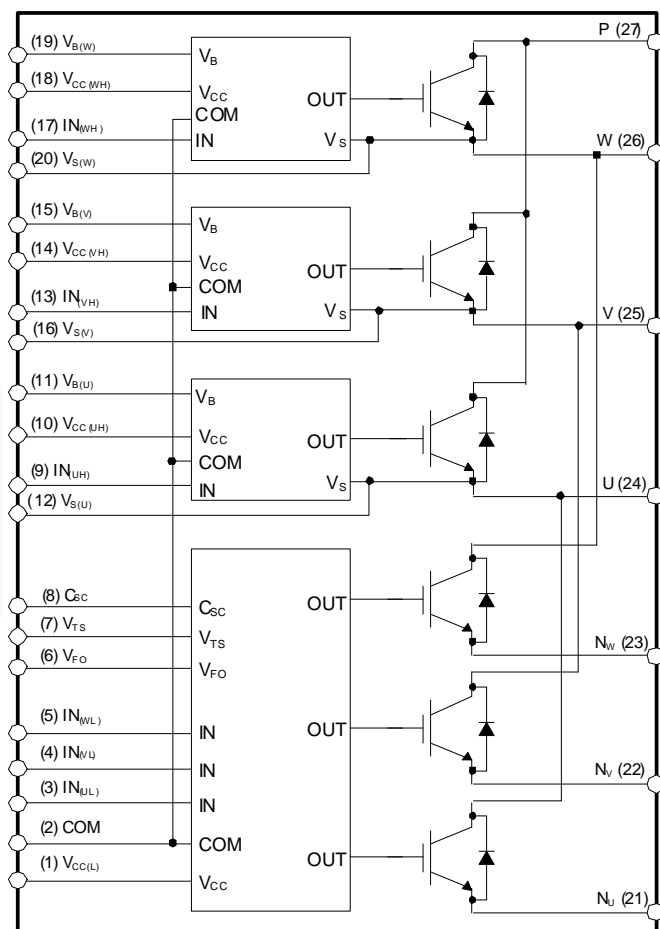

Figure 3. Internal Block Diagram
- 1200 V - 20 A IGBT inverter for three-phase DC / AC power conversion (Please refer to Figure 3)